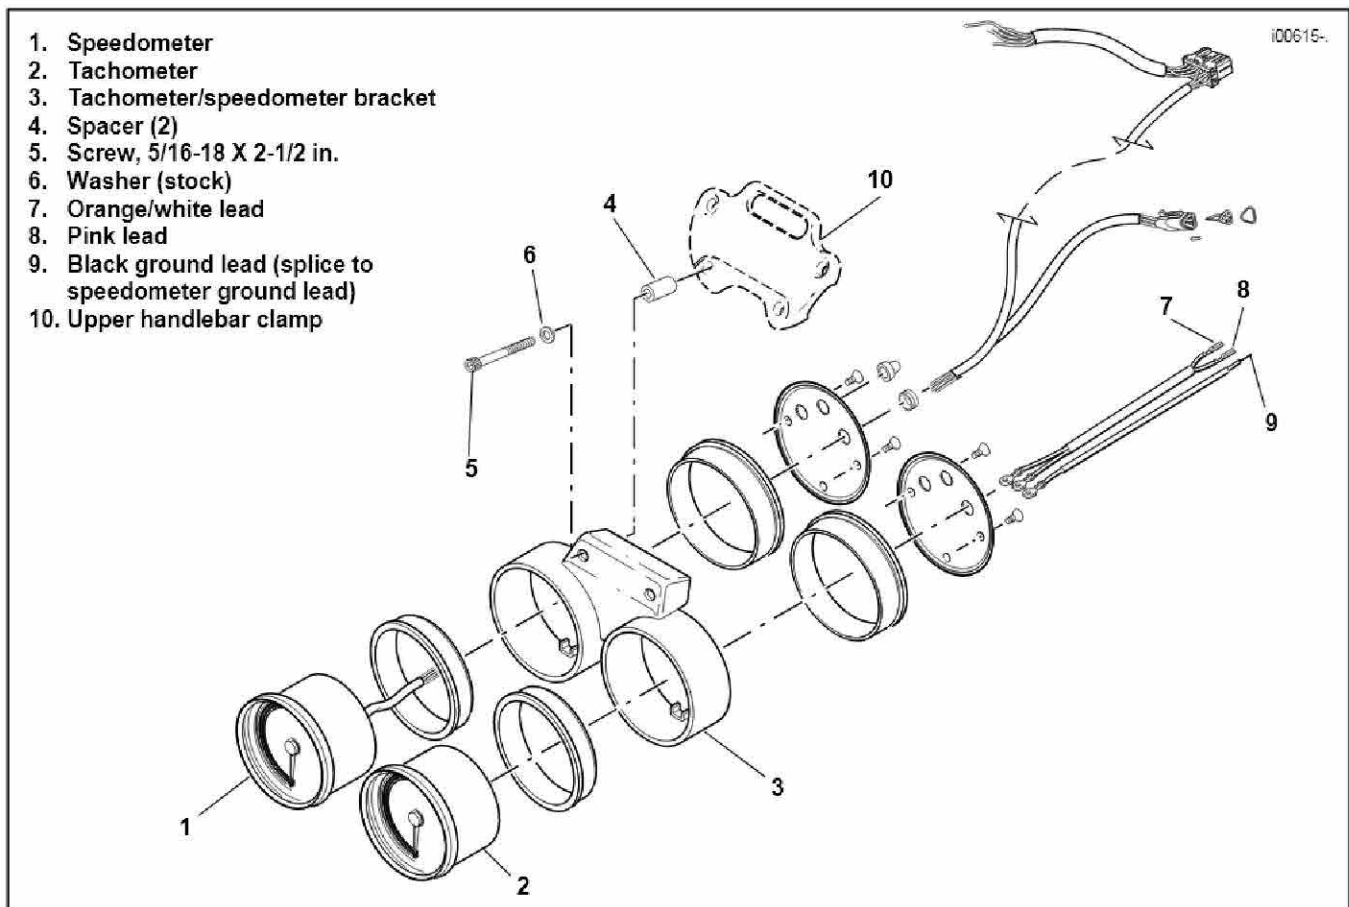

Figure 9. Exploded View Of Speedometer And Tachometer Installed In Double Bracket
- See Figure 9. Feed wires from speedometer through front of left opening in double bracket. Lubricate the front and rear gaskets with isopropyl alcohol or glass cleaner to ease installation.
- See Figure 9. Cut speedometer black ground lead 1 in. from existing terminal. Strip 3/8 in. insulation from both the wire ends adjacent to the cut.
- See Figure 9. Strip 3/8 in. insulation from tachometer black ground lead ((9)).
- See Figure 9. Install speedometer/tachometer assembly on handlebar clamp as shown using spacers and fasteners from kit. Tighten screws "snug -tight".
1. See Figure 9. If necessary, adjust the handlebar to the rider's normal position. Hold the handlebar and loosen rear clamp bolts. Position and adjust handlebars and tighten rear screws to 12 - 15 ft-lbs.